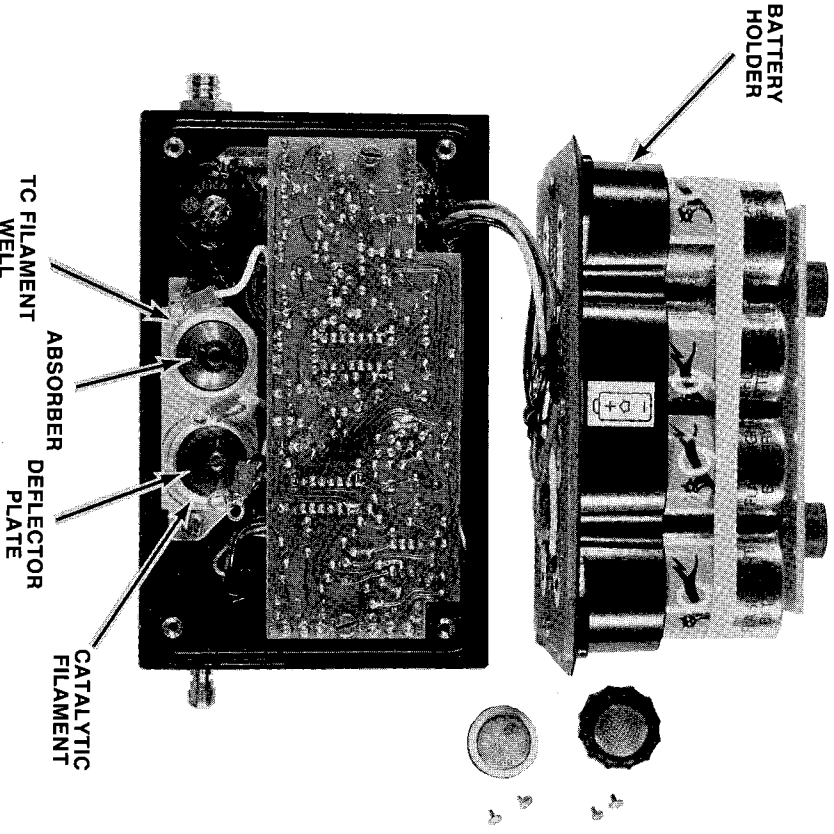

Figure 4-4. Location of Parts in Filament Wells
8. Loosen screw securing absorber (bowl-shaped part) in TC filament well, Figure 4-4, and remove absorber and screw.
12. Loosen screw securing deflector plate (disc-shaped part) in catalytic filament well, Figure 4-4, and remove deflector and screw.